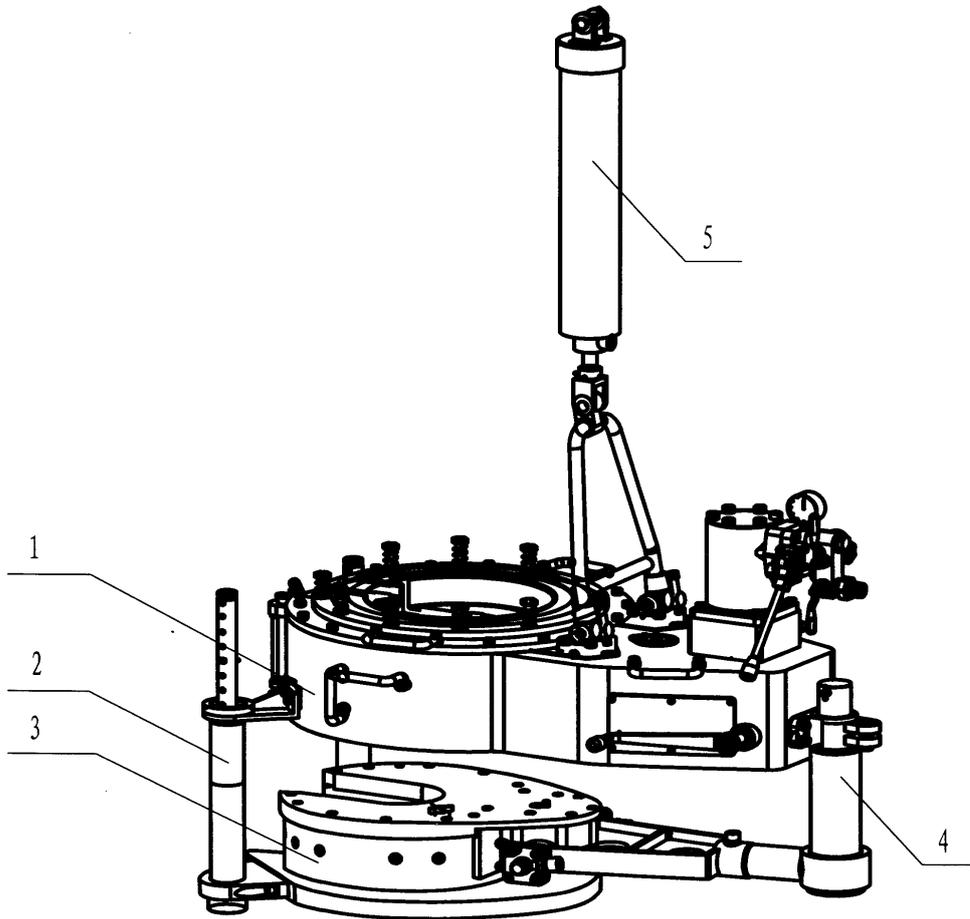

Fig1. General assembly
7.1 General assembly (Fig1. Table1)